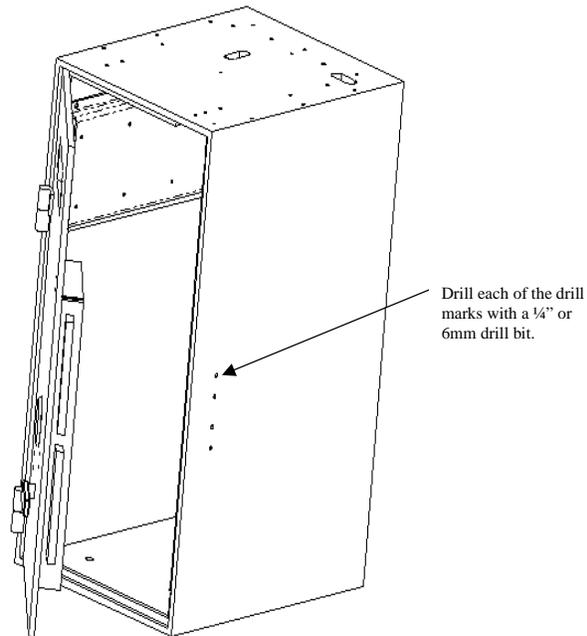

Figure 2. Drilling the pilot holes.
3. Once the holes are marked, remove the template and center punch each of the four hole marks. Drill out each of the four center punch marks with the either a $\frac{1}{4}$ " or a 6mm drill bit. See Figure 2.